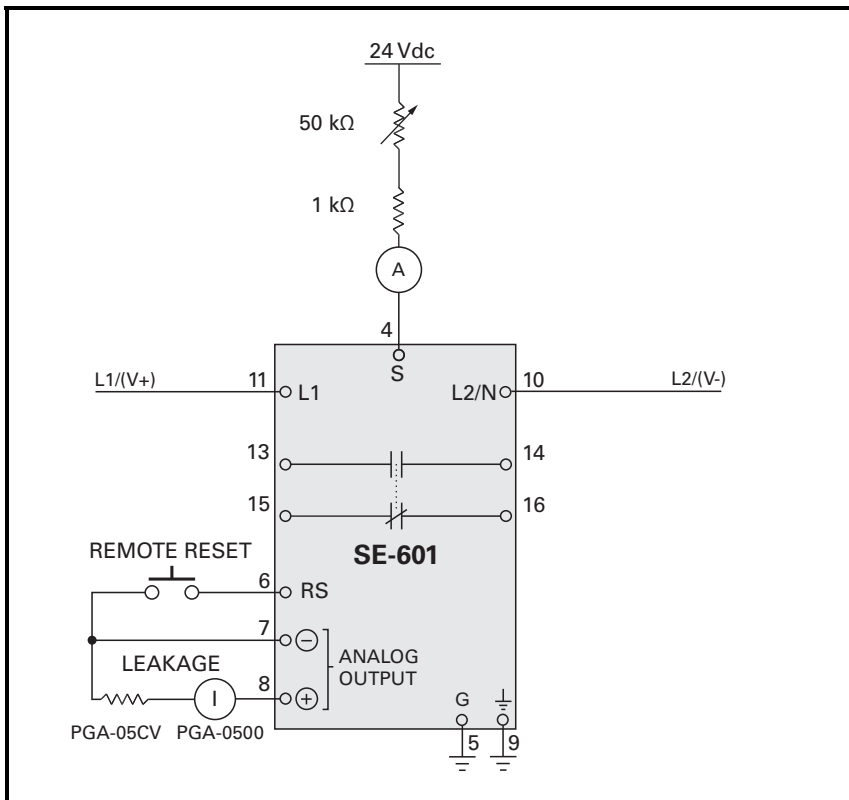

FIGURE 9. Ground-Fault Test Circuit.
- c) To simulate a ground fault, power down the entire system and remove the connection to terminal 4 (S). Ensure that terminal 5 is connected to ground. Using a 24 Vdc source, 50 kΩ variable resistor, fixed 1 kΩ resistor, and an ammeter, connect the circuit as shown in Fig. 9. Select a trip current on the SE-601, and slowly vary the resistance until the monitor trips. Never exceed 30 mA through the monitor.